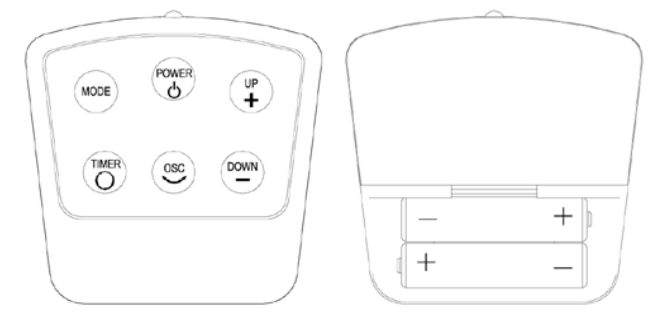

FIGURE 7
The unit may be operated by the control panel on the Heater (FIG. 2A) or by the remote control (FIG. 7).
1. Install two “AAA” batteries as shown in FIGURE 7.